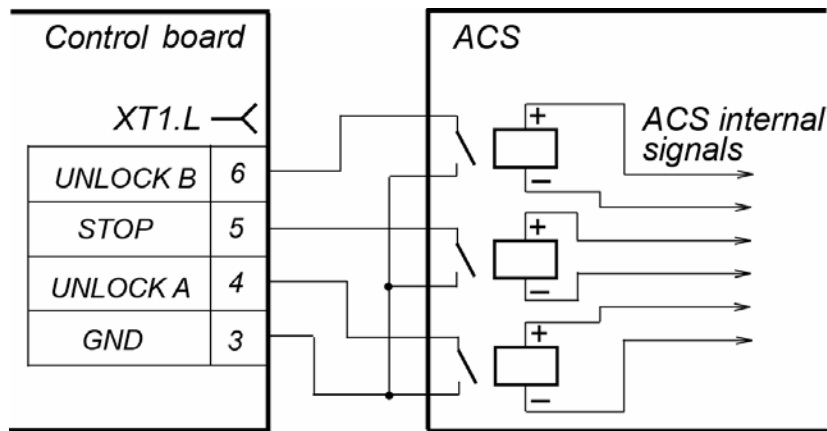
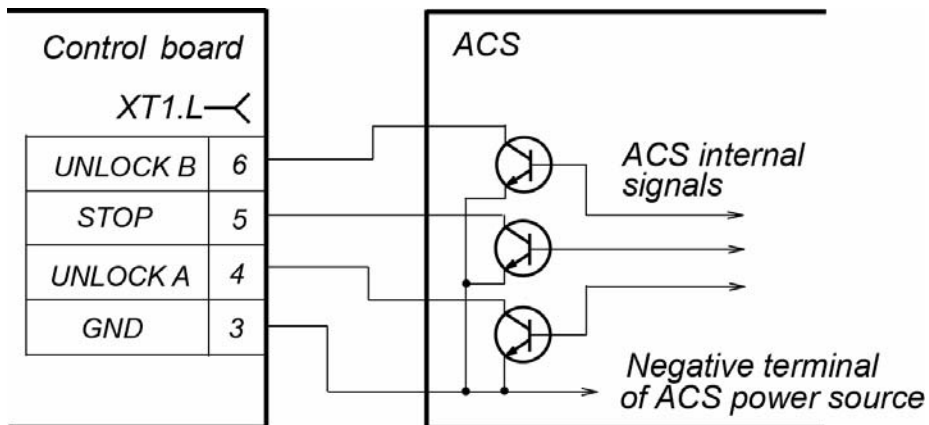

Figure 5. ACS control element — normally open relay contact
Figure 6. ACS control element — circuit with open-collector output
5.4.2 The turnstile is operated by input of a low-level signal to the “*XT1.L*” connector block contacts “*Unlock A*”, “*Unlock B*” and “*Stop*” relatively to the “*GND*” contact. As the control element there can be used a normally open relay contact or a circuit with open collector output at that. At the emergency the turnstile control is carried out by removing of a low-level signal from the “*Fire Alarm*” contact relatively to the “*GND*” contact. As the control element there can be used a normally closed relay contact or a circuit with open collector output at that (Fig. 5 and Fig. 6).